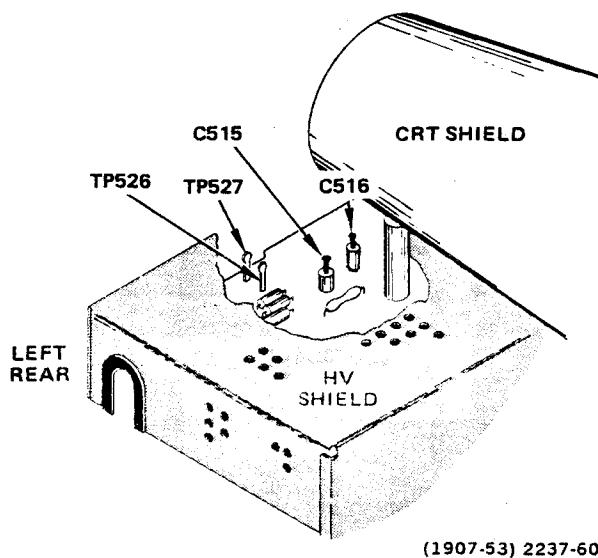

Figure 5-17. Crt and Z-Axis test point and adjustment locations.
c. **Crt Bias (Figures 5-17 and 5-18).**
- (1) Set A AND B TIME/DIV to X-Y.
- (2) Connect a digital voltmeter between TP526 and GND.
- (3) Set INTEN for about +20 volts (within 0.5 volt) voltage reading.
- (4) Disconnect the voltmeter.
- (5) Adjust FOCUS and ASTIG for a well defined spot (if spot is not visible, adjust CRT BIAS, R532 until it is; then adjust FOCUS and ASTIG).
- (6) Adjust CRT BIAS, R532 until the spot is just visible.
d. **Z-Axis Compensation (Figure 5-17).**